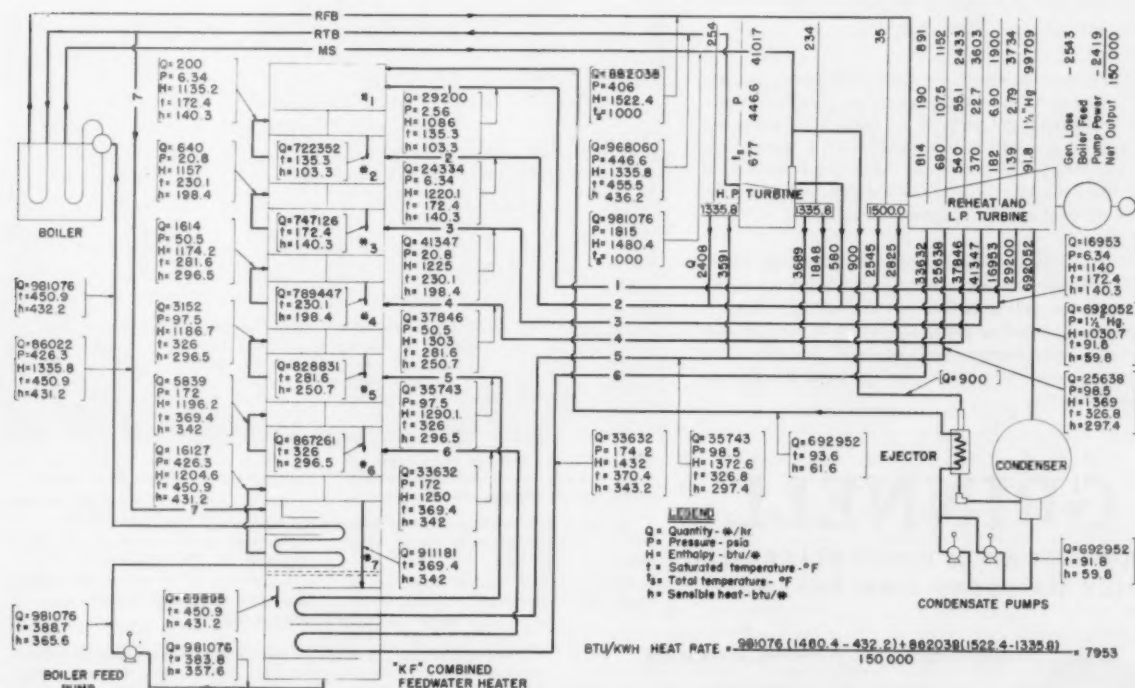

Fig. 7—Heat balance for a 150,000 kw, 1800 psig, 1000 F, 1000 F reheat, 1 1/2 in. Hg preferred standard turbo-generator with seven stages of feedwater heating
Figs. 5 and 6 and the description below are based on a 150,000-kw turbogenerator, 1800 psig, 1000 F, 1000 F reheat, with seven stages of extraction heating. Refer to Fig. 7 for heat-balance diagram. The operation for the 150,000-kw unit is as follows:
the equalizing steam connection. (See Fig. 7, p. 55.)
**Control System.** The control system for the K-F heater is designed to maintain a practically steady flow to each heater for a given load on the turbine, thus minimizing fluctuations in the extraction line pressures. Basically, the control system for each stage is made up of three elements: (1) primary demand, (2) correction for head variation, and (3) correction for flow to the succeeding stage.
Fig. 7 is a heat balance for a 150,000-kw, 1800-psig, 1000 F, 1000 F, reheat,  $1\frac{1}{2}$  in. Hg, preferred standard turbo-generator with seven stages of feedwater heating. With the exception of the direct-contact-heater terminal differences, the assumptions made were comparable to manufacturers' handbook assumptions; however, the heat rate for the K-F cycle is 0.425 per cent better than that found in the handbook (2).
It is possible in the foregoing heat balance to improve the heat rate still further by bettering the terminal difference of the high-pressure heater. The foregoing assumptions were made for comparison purposes. In the case of the 150,000-kw heat balance, the heat rate in Fig. 7 can be improved by approximately 8 Btu per kw-hr by using the desuperheating coils for heater No. 6 to improve the terminal difference on heater No. 7.